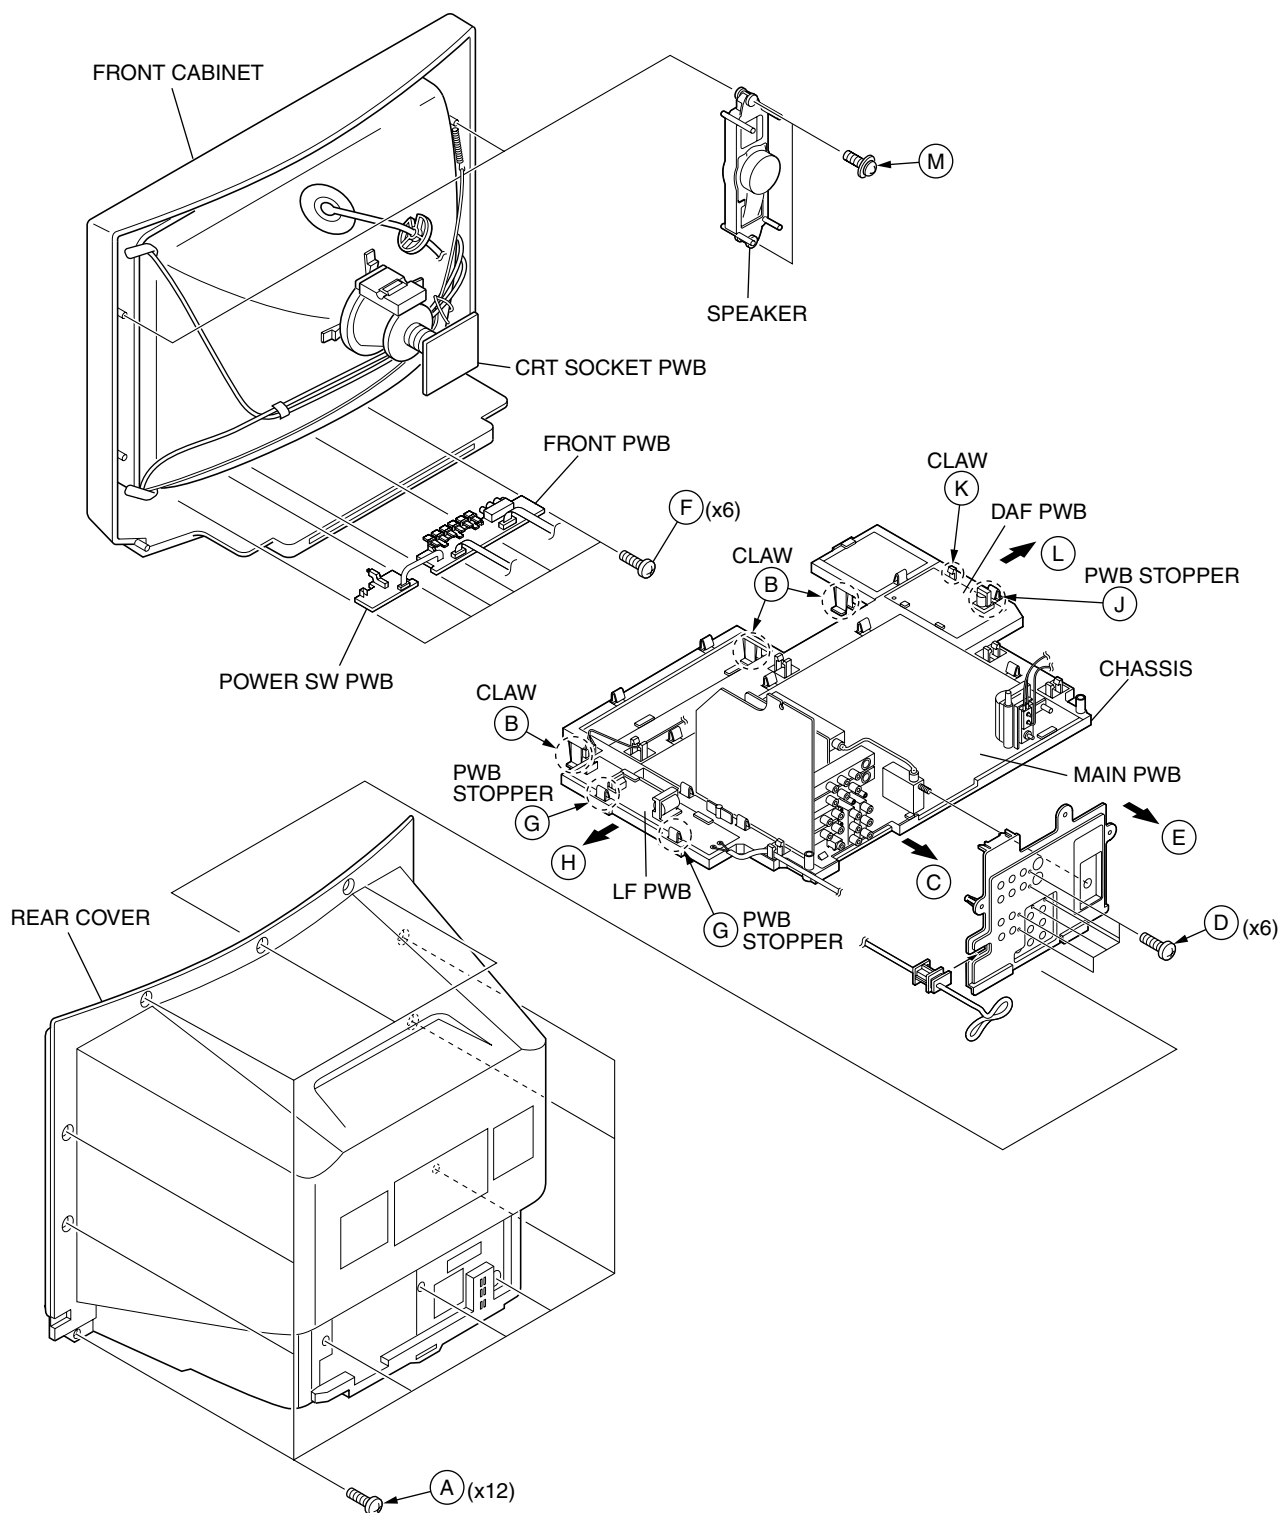

Fig.1
2. Remove the 12 screws marked (A) as shown in Fig.1.
1. Slightly raise the both sides of the chassis by hand and remove the 3 claws marked (B) under the chassis from the front cabinet as shown in Fig.1.
2. Withdraw the chassis backward along the rail in the arrow direction marked (C) as shown in Fig.1.
1. Remove the 6 screws marked (D) as shown in Fig.1.
2. When you pull out the TERMINAL BOARD in the direction of arrow marked E as shown in Fig.1, it can be removed.
1. Remove the 6 screws marked (F) as shown in Fig.1.
1. Lift the left side of the LF PWB while pressing the 2 PWB stoppers marked (G) in the arrow direction marked (H) as shown in Fig.1.
1. Lift the right side of the DAF PWB while pressing the PWB stopper marked (J) and claw marked (K) in the arrow direction marked (L) as shown in Fig.1.
1. Remove the 2 screws marked (M) as shown in Fig.1.
<p>(4) System constant check and setting</p> <ol style="list-style-type: none"> <li>1) Press SLEEP TIMER key and, while the indication of “SLEEP TIMER 0 MIN.” is being displayed, press DISPLAY key and VIDEO STATUS key on the remote control unit simultaneously.</li> <li>2) The SERVICE MENU screen of Fig.1 is displayed.</li> <li>3) While the SERVICE MENU is displayed, again simultaneously press the DISPLAY and VIDEO STATUS keys to display the Fig.2 SYSTEM CONSTANT screen.</li> <li>4) Refer to the SYSTEM CONSTANT table and check the setting items. Where these differ, select the setting item with the MENU UP/DOWN key and adjust the setting with the MENU LEFT/RIGHT keys. (The letters of the selected item are displayed in yellow.)</li> <li>5) After adjusting, release the MENU LEFT/RIGHT key to store the setting value.</li> <li>6) Press the EXIT key twice to return the normal screen.</li> </ol>	 <p style="text-align: center;">Fig.1</p>
<p>(7) SERVICE MENU setting Verify what to set in the SERVICE MENU, and set whatever is necessary.(Fig.1) Refer to the SERVICE ADJUSTMENT for setting.</p>